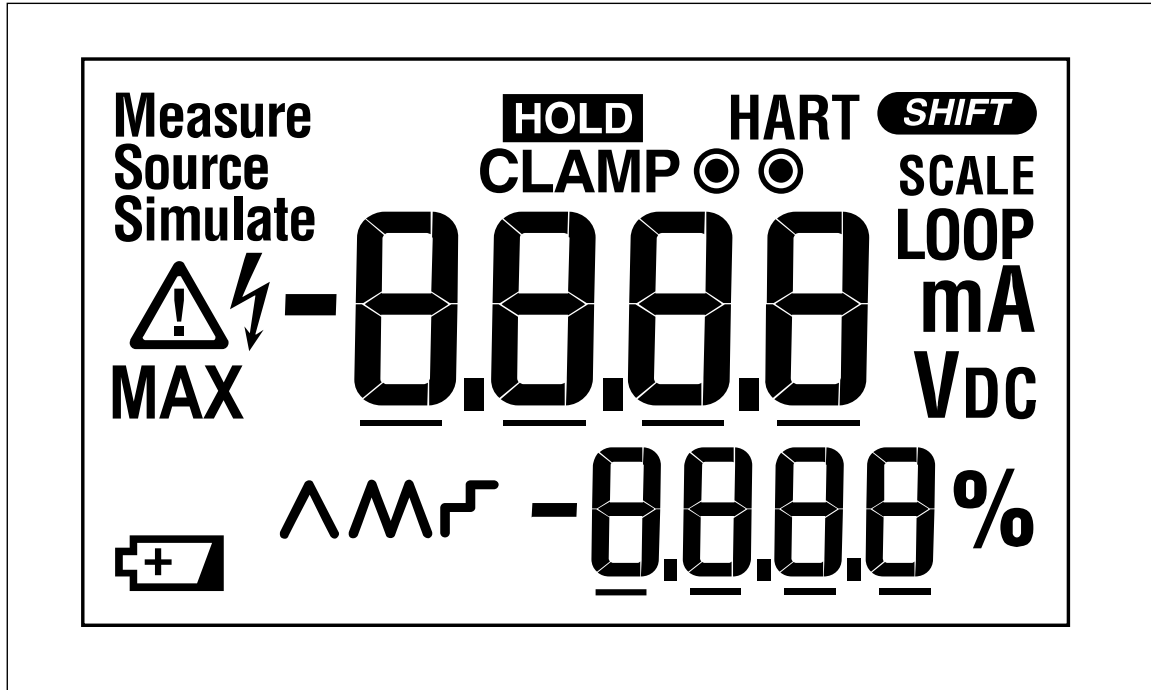

Figure 3. Display Test
2. Compare the Meter display to Figure 3.